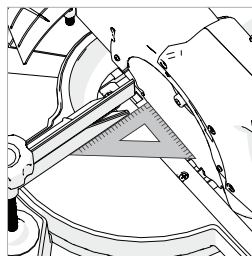

Fig. 19
- Ensure that the Cutting Head is in the locked down position with the latching pin fully engaged in its socket. **(see Fig. 19)**
- Place a Set Square on the table with one short edge against the Fence and the other short edge against the Blade (avoiding the TCT tips). **(Fig. 19)**